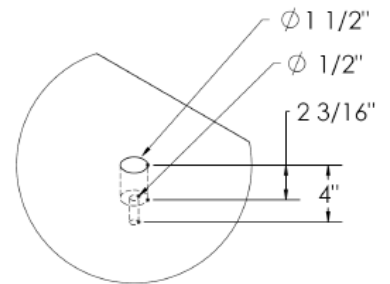

Figure 4
2. Use a 1- $\frac{1}{2}$ " diameter concrete core drill to drill out the anchor holes to a depth of 2- $\frac{3}{16}$ " as shown in figure 4. Clean all of the debris from the holes. Check to see if the bottom of each hole is in solid concrete. The anchors will only hold if the surrounding concrete is solid. The top of the anchor should be $\frac{1}{4}$ " below the deck surface. The anchors can be installed deeper, if necessary, to mount sufficiently solid concrete.
4. Screw the Leveler Pad into the base assembly as shown in figure 4.